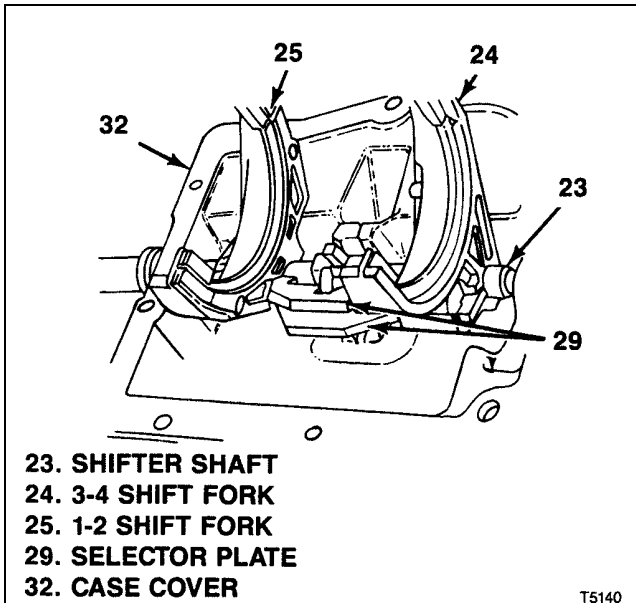

Figure 7-18. Installing T5 STD 3rd-4th Shift Fork
- g. Position 3-4 shift fork (24) (with inserts and selector plate) in case cover (32) so that selector plate (29) in 3-4 shift fork is between cover and selector plate (29) in 1-2 shift fork (25). Continue to push in shifter shaft (23) completely through 3-4 shift fork and into cover (see figure 7-18).